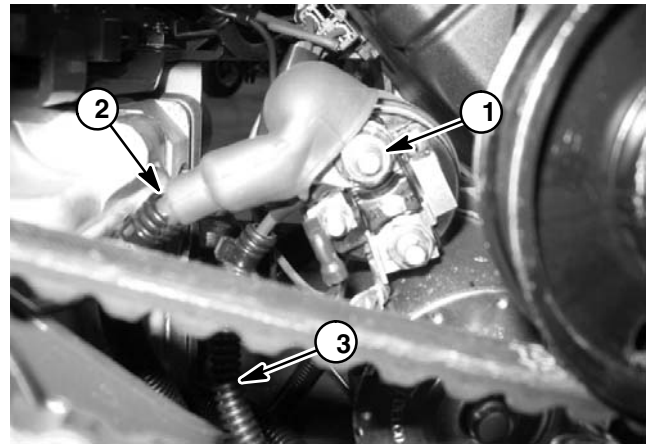

Figure 9
A. Remove harness red wire and positive battery cable from the starter motor solenoid stud (Fig. 9).
E. Connect red wire and positive battery cable to the starter motor solenoid stud (Fig. 9).
7. After engine installation, verify pulley alignment across engine and hydraulic pump pulley faces with a straight edge. If necessary, loosen two (2) set screws on hydraulic pump pulley and adjust location of pulley. Retighten pulley set screws after adjustment.